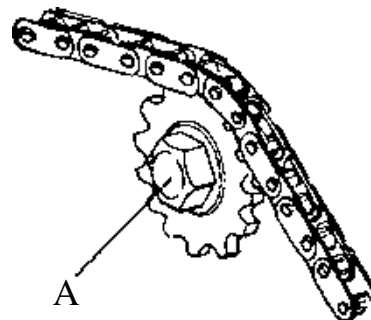

Figure 6.13 Secondary drive chain adjustment
1. Loosen the Jockey sprocket pivot bolt (A) figure 6.13.